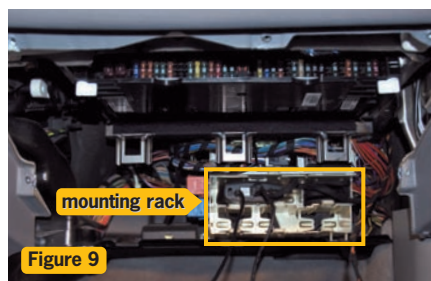

Figure 9
**10.** Continue to route the harness under the kick panel trim and up into the area forward of the glovebox. Notice the white plastic module mounting rack. Depending on the vehicle's specific options, you should find some, or all, of the compartments vacant. We will mount the MediaBridge control unit into one of the vacant compartments in the module mounting rack (figs. 9 & 10).